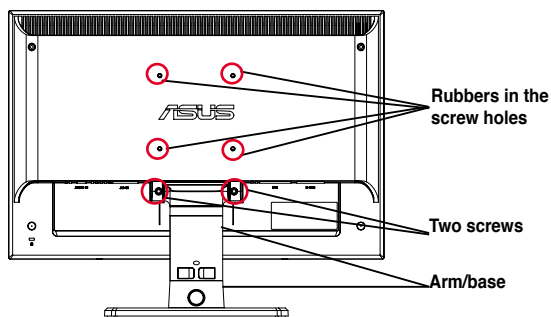
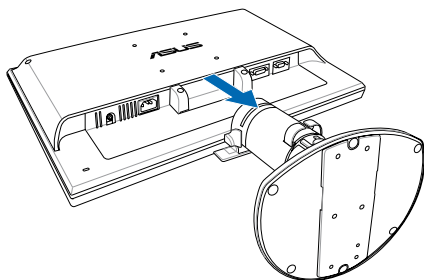

Figure 2
Figure 3
3. Remove the rubbers in the four screw holes (Figure 2).
4. Use a screwdriver to remove the two screws on the arm (Figure 2), then slide out the arm/base to detach it from the monitor (Figure 3).